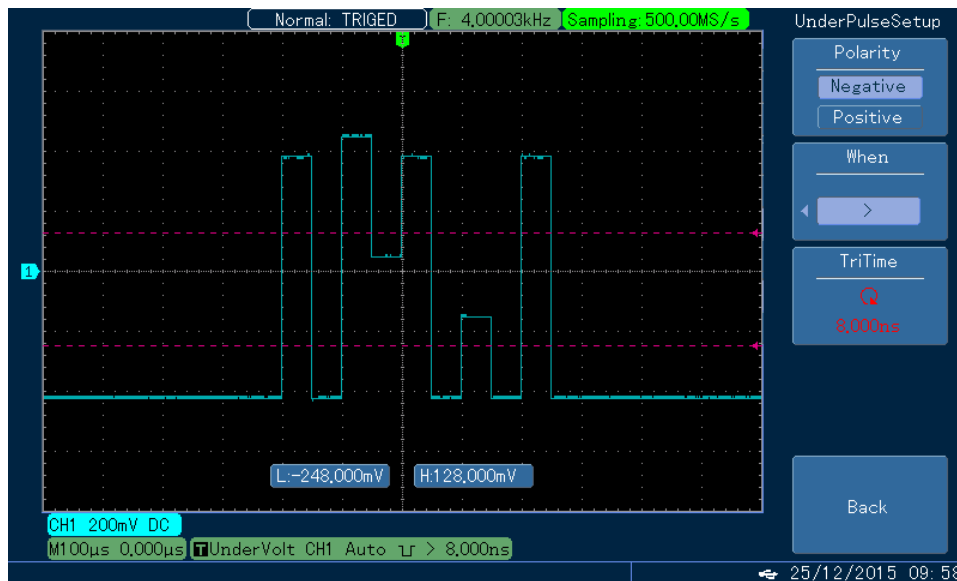

Fig. 3-13 Less Amplitude Pulse Trigger (Negative Polarity)
4. Set output condition: Press F5 to return to the first page of “Pass/Fail” menu. Press F2 to set the “Pass/Fail” port (located behind the oscilloscope) and the judgment condition for output of buzzer. While in “Pass/Fail” menu, press F1 to open the “Detection” State, as shown in Fig. 3-13.